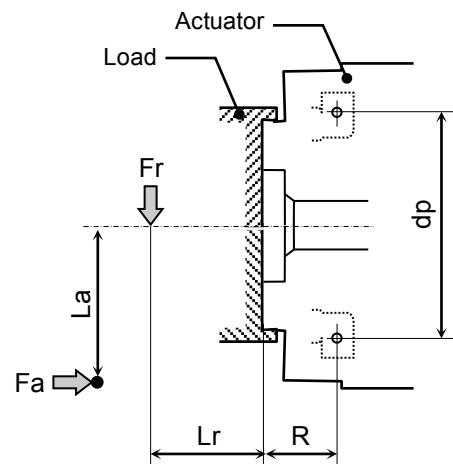

Fig.1 Loads
F_{rmax} : Maximum radial load in N(kgf); See Fig.1.
F_{amax} : Maximum axial load in N(kgf); See Fig.1.
L_r , L_a : Loading point in mm; See Fig.1.
R : Offset: See Fig.1 and Table 1.
F_{rmax} : Maximum radial load in N (kgf); See Fig.1.
F_{amax} : Maximum axial load in N (kgf); See Fig.1.
L_r, L_a : Loading point in mm; See Fig.1.
R : Offset; See Fig.1 and Table 1.
dp : Circular pitch of roller: See Fig.1 and Table 1.
d_p :	Circular pitch of roller: See Fig.1 and Table 1.
L_r, L_a :	Loading point in mm; See Fig.1.
R :	Offset; See Fig.1 and Table 1.
- M_{max}: Maximum torsional moment in N•m(kgf•m); obtained by the formula (1)
- F_{rmax}: Maximum radial load in N(kgf); See Fig.1.
- F_{amax}: Maximum axial load in N(kgf); See Fig.1.
- d_p: Circular pitch of roller: See Fig.1 and Table 1.